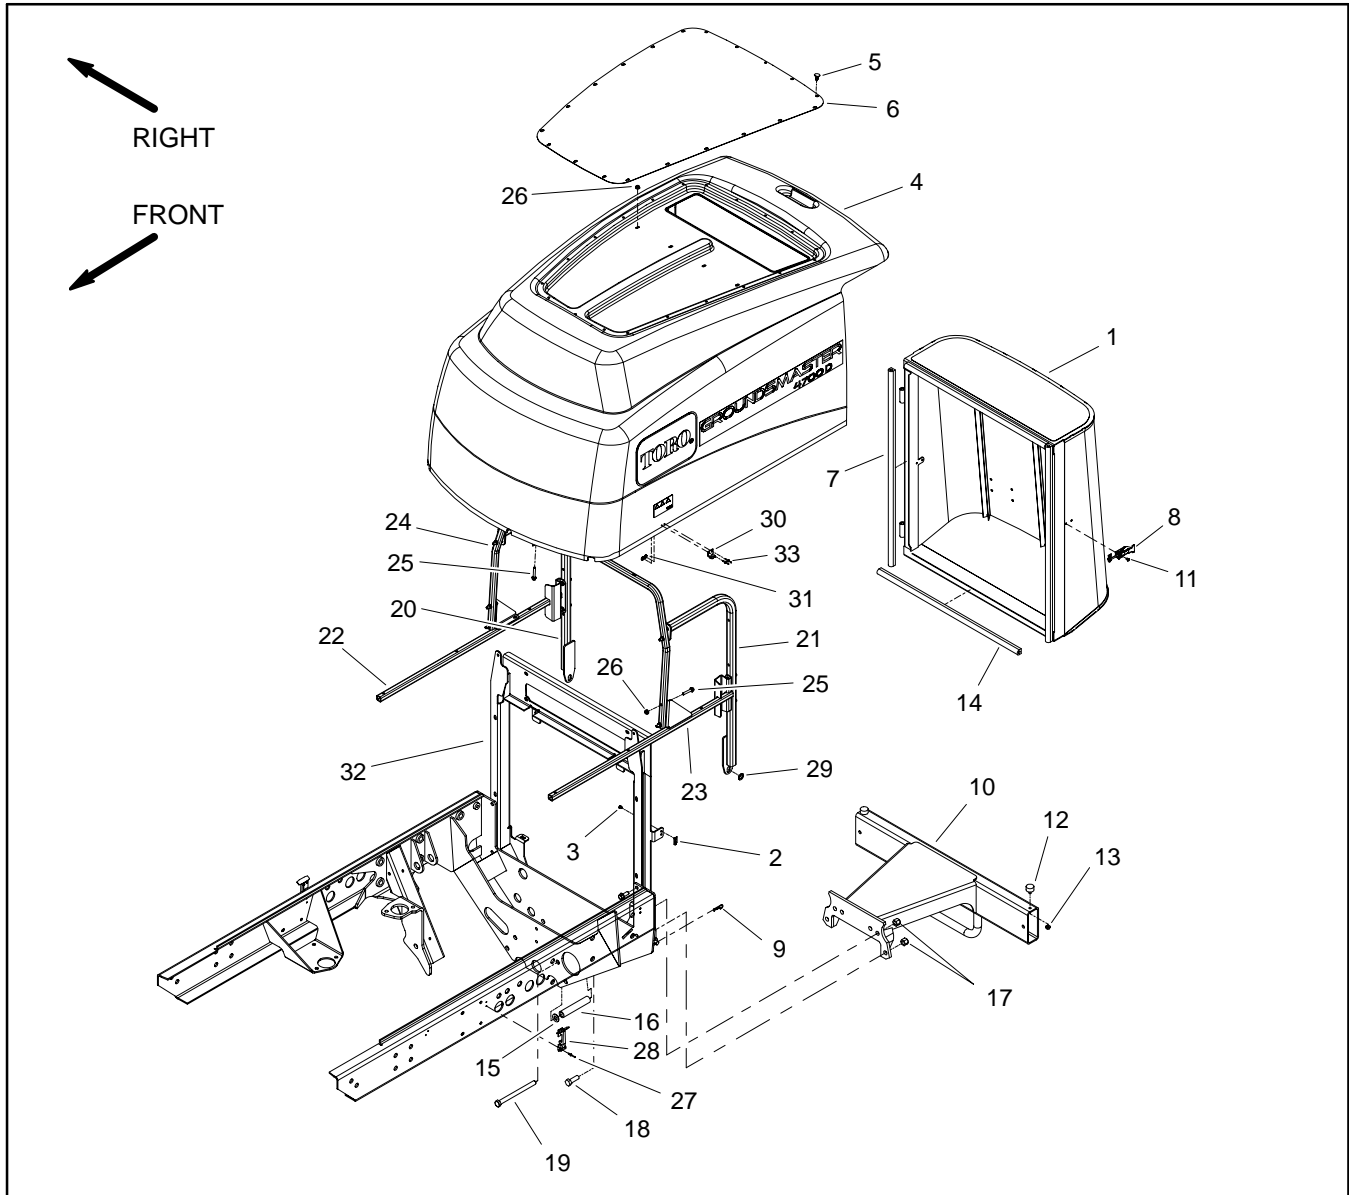

Figure 19
Removal (Fig. 19)
5. If necessary, disassemble hood using Figure 19 as a guide.
Installation (Fig. 19)
1. If components were removed from hood, assemble hood using Figure 19 as a guide.